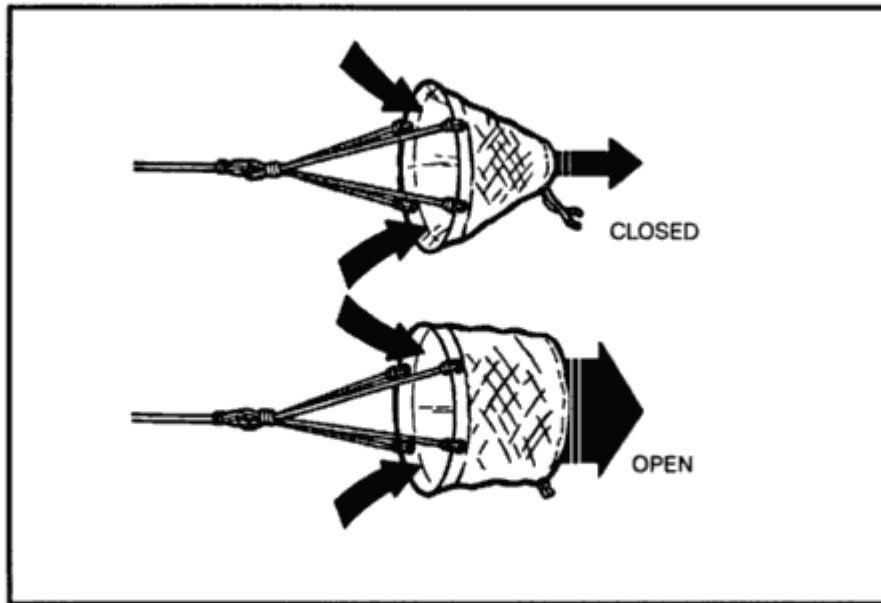

Figure 16-5. Sea anchor.
- Throw out the sea anchor, or improvise a drag from the raft's case, bailing bucket, or a roll of clothing. A sea anchor helps you stay close to your ditching site, making it easier for searchers to find you if you have relayed your location. Without a sea anchor, your raft may drift over 160 kilometers in a day, making it much harder to find you. You can adjust the sea anchor to act as a drag to slow down the rate of travel with the current, or as a means to travel with the current. You make this adjustment by opening or closing the sea anchor's apex. When open, the sea anchor (Figure 16-5) acts as a drag that keeps you in the general area. When closed, it forms a pocket for the current to strike and propels the raft in the current's direction.